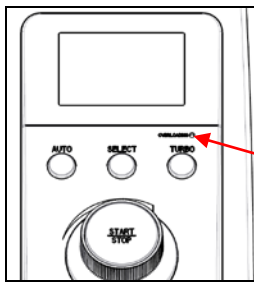

Figure 1
- * The machine will be stopped if overloading, Be caution the red LED will be kept power on with beep if overloading (Figure 1), The lamp will be always kept power off under condition, At that moment the consumer should unplug the pin if it happens, and you need to remove a portion of the food inside the cup, and the machine will be restored after at least 15 minutes.